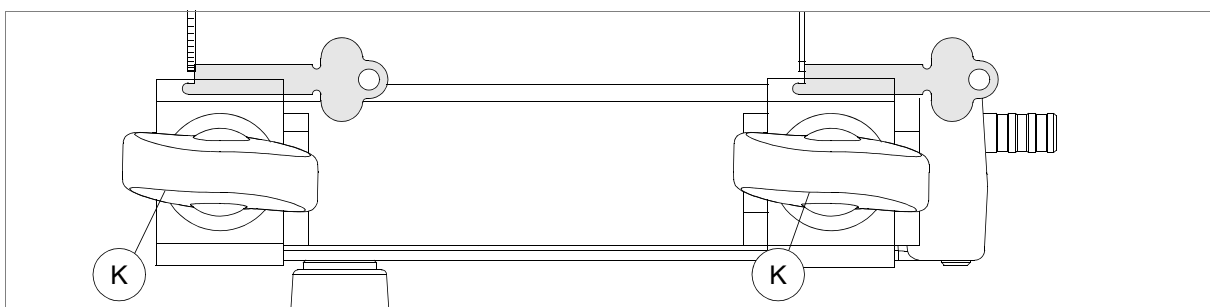

Fig. 43
- 3) Insert the original key into the right-hand clamp, using the end of the bit (towards the tip) as a reference against the tracer point (fig. 43).